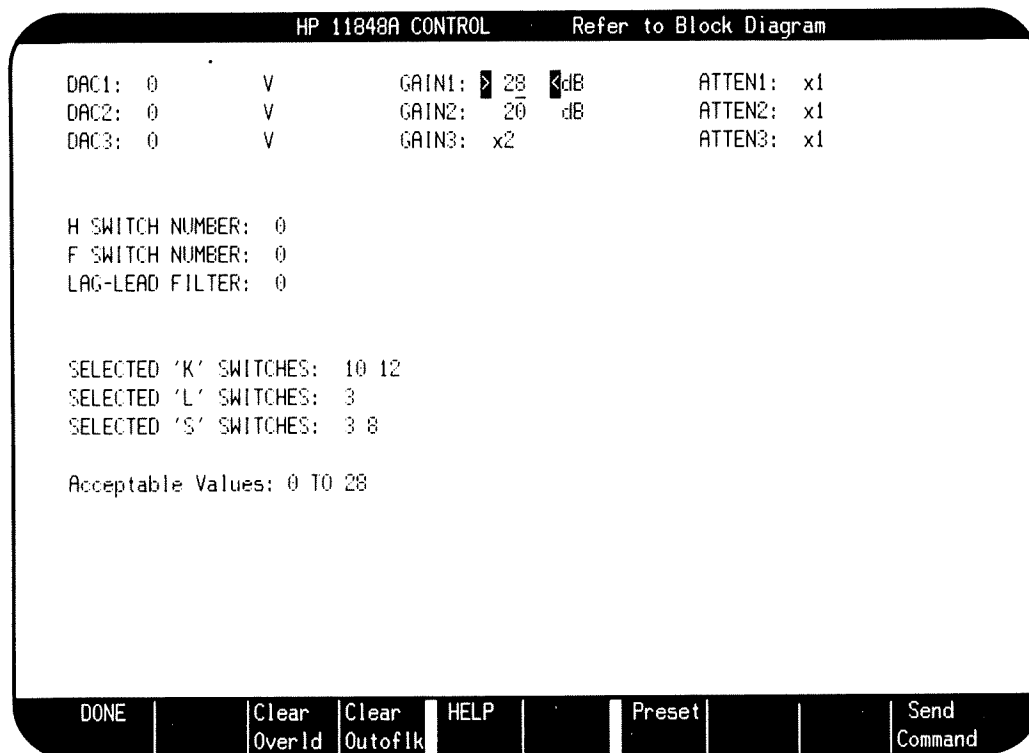

Figure 3-4. HP 11848A Control Display for FM Test
- d. Use the cursor control keys to move the cursor to the "SELECTED 'K' SWITCHES:" line then key in 10 and 12. (Refer to figure 3-4.)
- f. Press the **Send Command** softkey to initiate the commands. The display should appear as in figure 3-4 except for the cursor position, the values following "GAIN1:" and "GAIN2:" (which will be entered later), and the bottom line.
8. Fine tune the Signal Generator's carrier frequency until the front-panel meter of the system's interface reads approximately 0. This establishes quadrature in the interface's phase detector to make it function as a linear phase detector. (The display should now appear as in figure 3-4.)